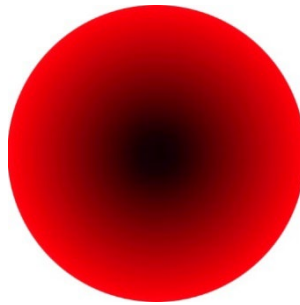

Figure 2: AC or RF current (red) in the cross section of a conductor. The center isn't used.
Historically, magnetic loops for ham radio first appeared in March 1968 in QST from radio luminary Lew McCoy (SK), as “The Army Loop in Ham Communication,” Figure 2. Originally designed by Kenneth H. Patterson for the U.S. Army for use in Viet Nam, it was 12 feet in diameter, made of eight 5 ft. aluminum sections flattened at both ends, bolted together for conductivity, and matched by three large variable capacitors.